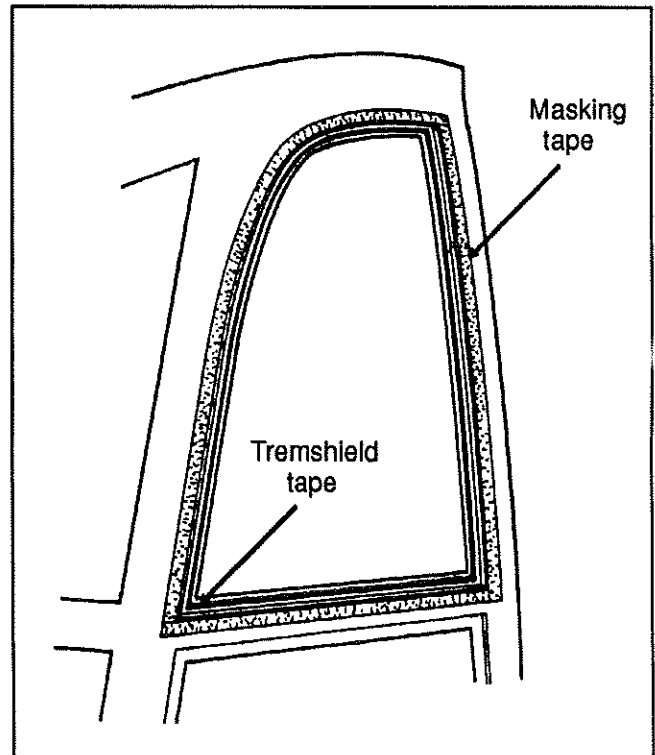

Fig. 31
8. Install Tremshield tape (68-1089) around the sealing surface of the window opening. See figure 31.